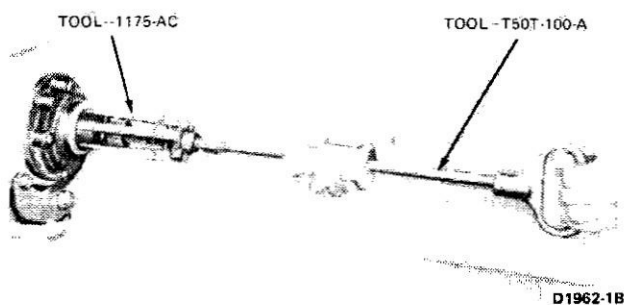

FIG. 35 Removing Front Pump Seal
7. If the oil seal requires replacement, bolt the front pump to the transmission case with capscrews, and install the oil seal remover shown in Fig. 35. Then pull the front seal from the pump body.